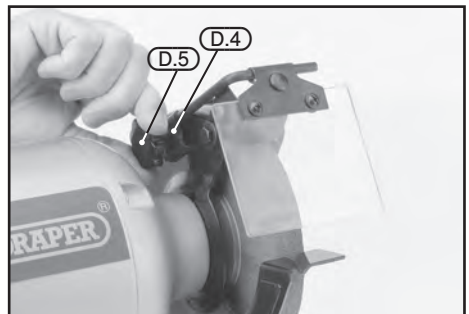

FIG.6
- To fit the eye shields to the bench grinder attach clamp (D.4) to the wheel guard using lock knob (D.5) large star washer and large washer as shown in Fig.6. Insert mounting rod into the clamp, position as required and tighten lock knob. The eye shield is fully adjustable. It can be adjusted by either loosening the lock knob and moving the rod or by moving the eye shields.